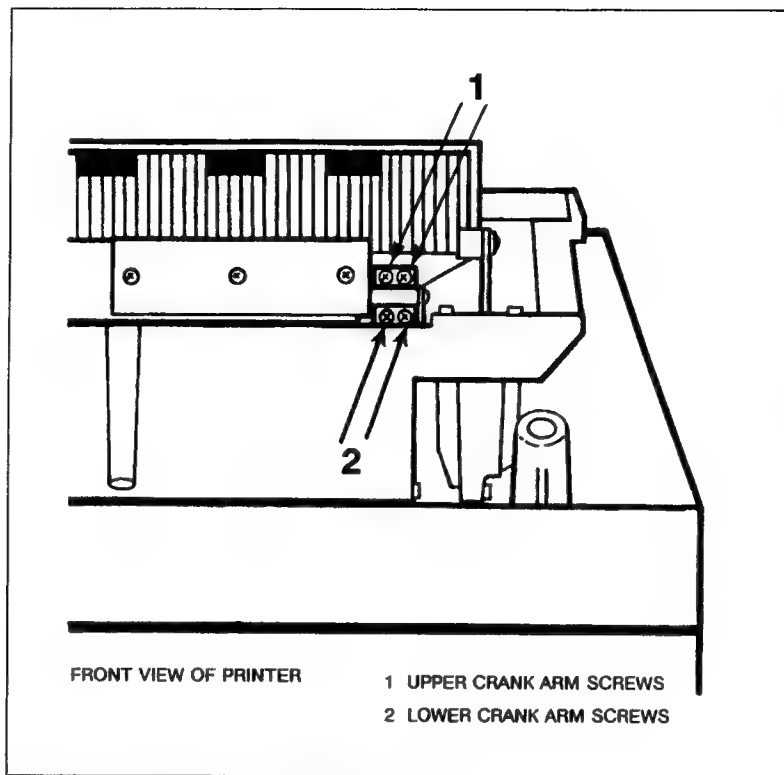

Figure 5-2. Crank Arm Adjustment Screws
- d. Loosen all four crank arm screws (see Figure 5-2). Move the adjustment tool until the counter balance weights are equally centered between the inside edges of the tool or the reference on the tool.